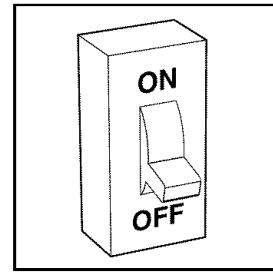

**Fig. 16 - Lowest Temperature Setting**
1. Set your room thermostat to the lowest temperature setting. (See Fig. 16.)